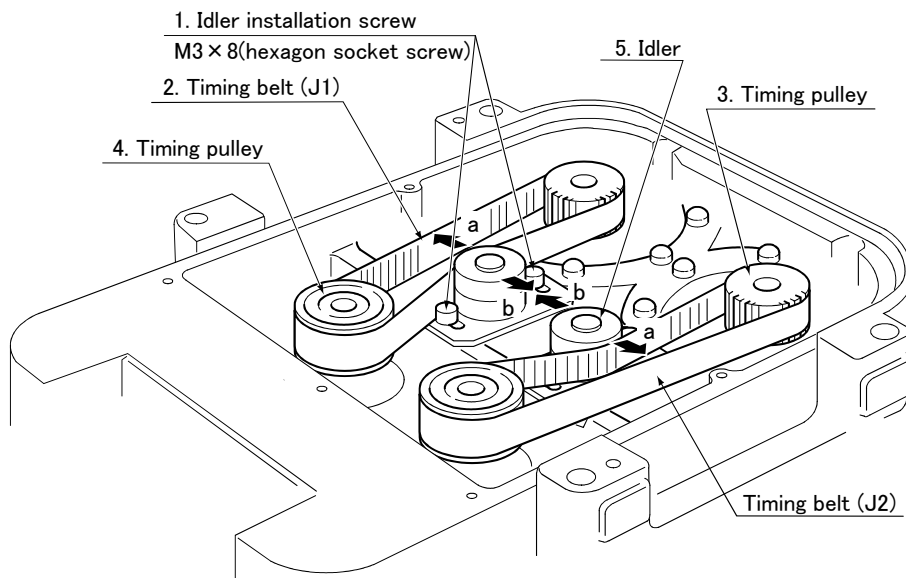

Fig.5-5 : Inspecting, adjusting and replacing the lower base timing belt
- 3) Referring to Fig. 5-5, install so that the robot arm installation surface faces upward.